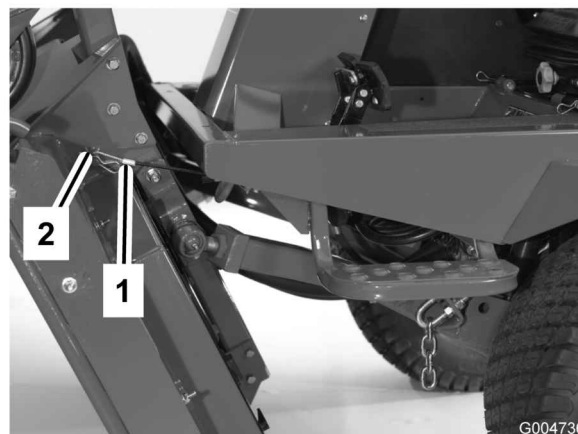

Figure 77
6. Hold the cutting unit upright, fit the cable end over the pin on the cutting unit lift arm and secure it with the hairpin cotter (Figure 77).